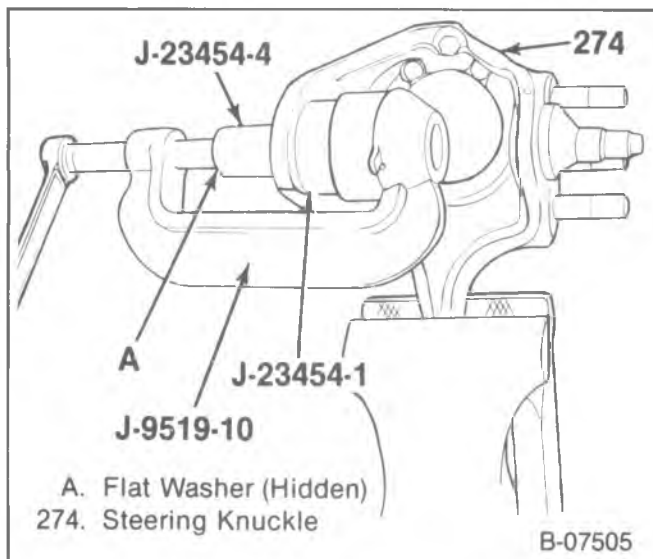
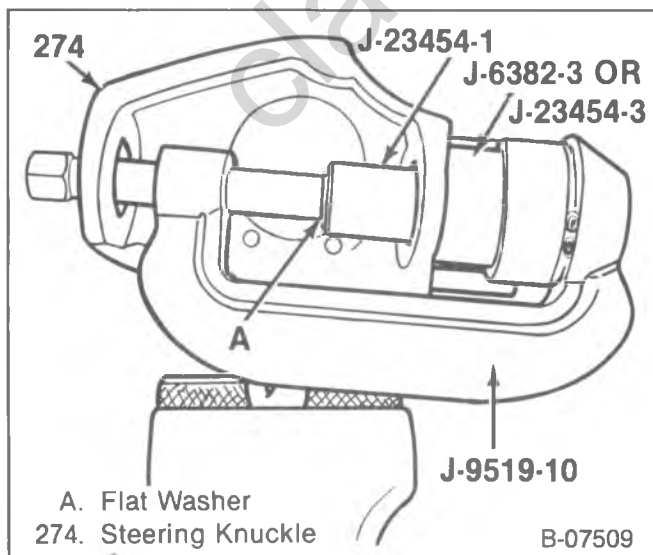

Figure 59—Removing the Lower Ball Joint
Figure 60—Removing the Upper Ball Joint
- 3. Steering knuckle (274) and steering arm (290).
- Remove the steering arm (290) only if removing the left axle yoke ball joints.
- Place the steering knuckle in a vise (figure 59).
- 4. Lower ball joint (293).
- Must be removed before any service can be done to the upper ball joint (294).
- Snap ring from the lower ball joint (293).
- Use J-9519-10, J-23454-1, J-23454-4 or equivalent (figure 59). Tighten until the ball joint breaks free of the steering knuckle.
- 5. Upper ball joint (294).
- Use J-9519-10, J-23454-3 (or J-6382-3) and J-23454-4 (figure 60). Tighten until the ball joint breaks free of the steering knuckle.